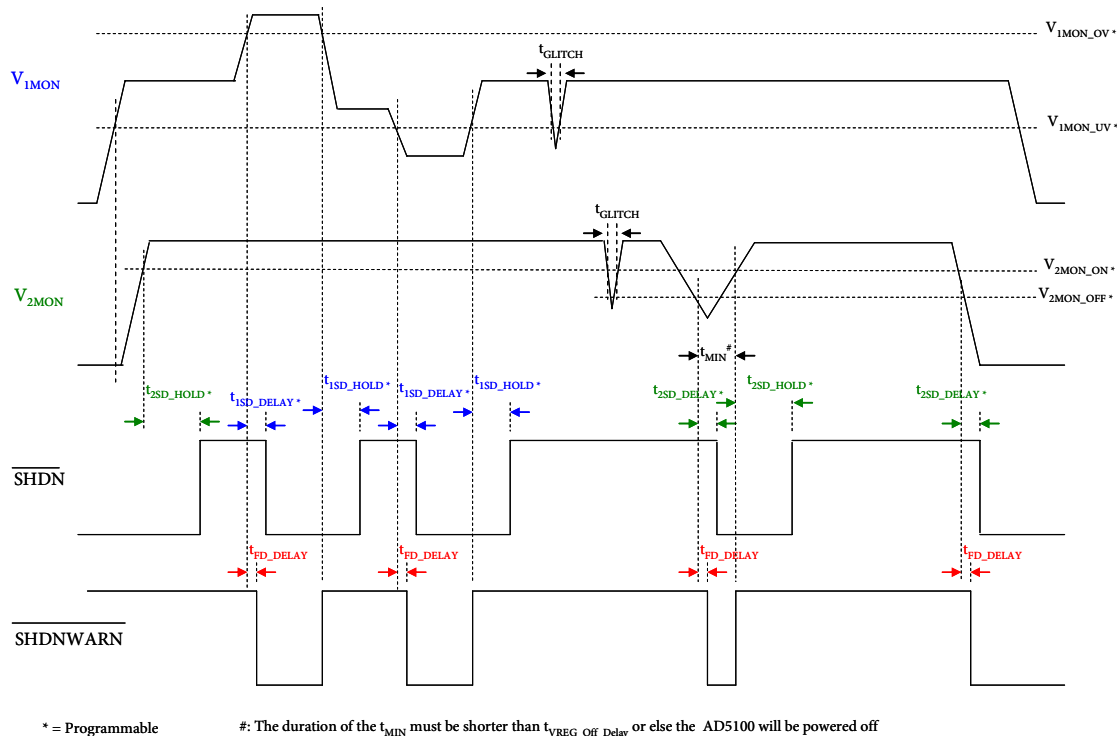

Figure 5. $V_{1\text{MON}}$ and $V_{2\text{MON}}$ Shutdown Timing Diagrams (Note $\overline{\text{RESET}}$ follows $\overline{\text{SHDN}}$).
depending on how long the shutdown programmed-delay is set relative to the $\overline{\text{SHDNWARN}}$ propagation delay, this feature attempts to allow the system to finish any critical house keeping tasks before shutting down the external device. The $V_{1\text{MON}}$, shutdown, and shutdown warning timing diagrams are shown in Figure 5. The ranges of OV and UV Thresholds are shown in Table 5a and the programming codes of the selected-thresholds are found in Table 5b. The defaulted OV threshold is 18.00V and UV threshold is 8.43V. Similarly, the ranges of shutdown hold and delay times are shown in Table 6a and the programming codes of the selected-timings are found in Table 6b. The defaulted shutdown hold time is 200ms delay time is 1200ms. The voltage at $V_{1\text{MON}}$ provides the power for the AD5100 but valid signal at $V_{2\text{MON}}$ must be present before the internal V_{REG} starts operation. Details will be explained in the power section.
By default, V_{2MON} is level-sensitive that the ON and OFF thresholds are both monitored. The ON threshold chosen must be greater than the OFF threshold. When the shutdown function is triggered by the input reaching V_{2MON_OFF} threshold, such fault condition will be temporarily recorded in the Fault Detection Register. The $\overline{SHDNWARN}$ output will transition low for signaling before shutdown occurs. The occurrence of shutdown is depending on how long the shutdown programmed-delay is set relative to the $\overline{SHDNWARN}$ propagation delay, this feature attempts to allow the system to finish any critical house keeping tasks before shutting down the external device. The V_{2MON} , shutdown, and shutdown warning pins timing diagrams are also shown in Figure 5. The ranges of ON and OFF Thresholds are shown in Tables 5a and the programming codes of the selected-thresholds are found in Table 5b. The defaulted ON threshold is 7.47V and OFF threshold is 6.95V. Similarly, the ranges of shutdown hold and delay times are shown in Table 6a and the programming codes of the selected-timings are found in Table 6b. The defaulted shutdown hold time is 10ms and delay time is 100ms.
2. When $V_{1\text{MON}}$ goes over or under the threshold, Figure 5.
3. When $V_{2\text{MON}}$ is below the turn-on threshold during the rising edge or the turn-off threshold during the falling edge in the default level sensitive mode, Figure 5.
4. When $\overline{\text{SHDN}}$ output is asserted, Figures 5 and 13.